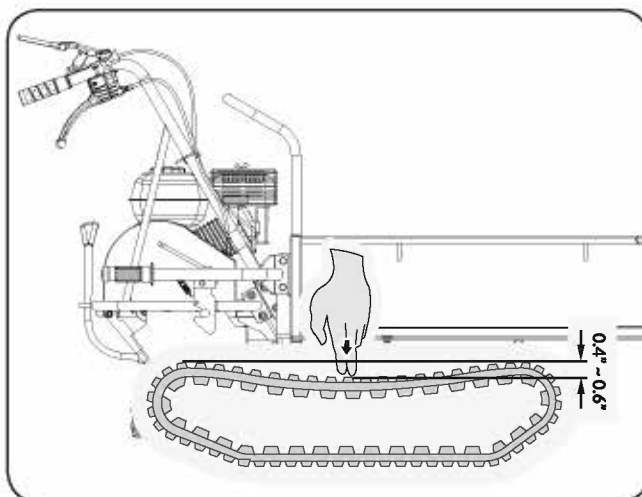

Figure 13a
3. Measure the track midline vs. the horizontal line. The reading must not be more than 0,4"~0,6". (See **Figure 13a**)